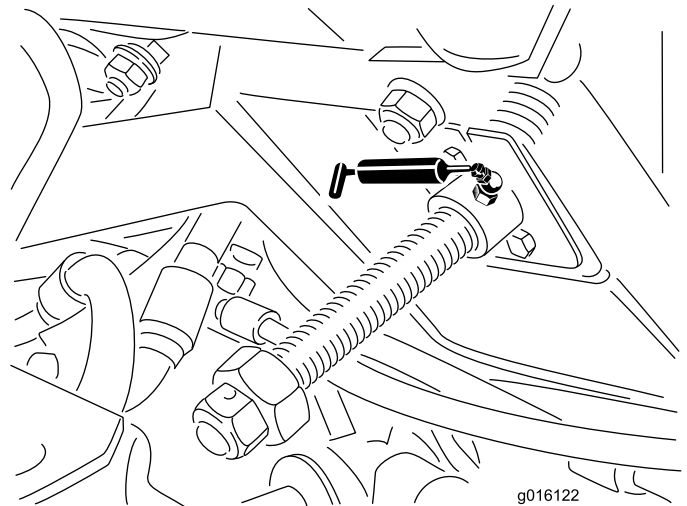

Figure 11
1. Ensure the spindle is well lubricated before operating. Use the grease nipple located above the Large Nut as the grease point (Figure 11).